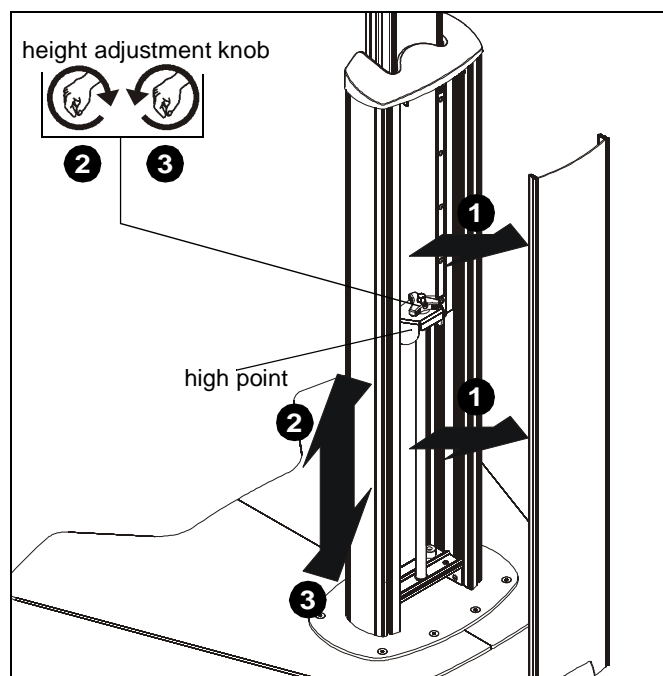

Figure 11
1. Remove cable cover (G) to expose height adjustment knob.
2. Turn height adjustment knob clockwise to raise display. (See Figure 11)
3. Turn height adjustment knob counterclockwise to lower display. (See Figure 11)
WARNING: Do not attempt to raise or lower the adjustment carriage beyond its upper or lower limit. High and low points are shown in Figures 11 and 12.